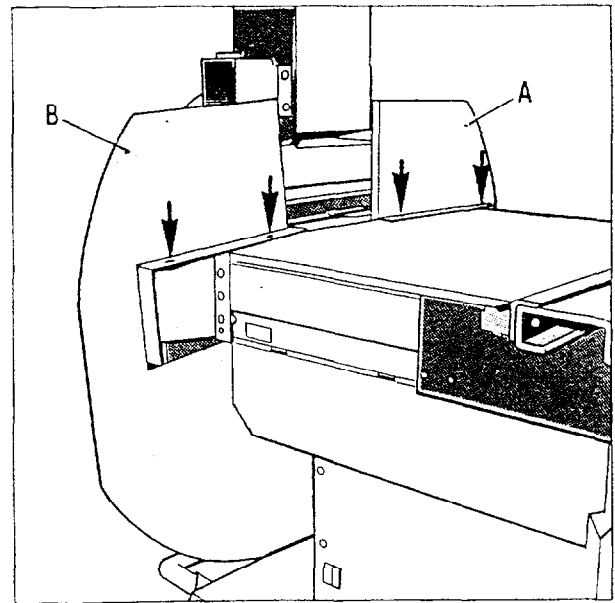

Fig. 5
- Attach the cover panels A and B to the front of the swivel frame and fasten with two cover screws each at the top (✓/Fig.5) .